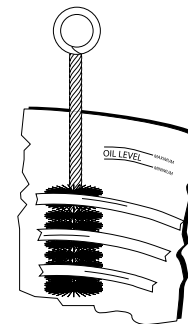

FIGURE 25
11. **Scrub Heater Coils** with white teflon brush. Clean heaters, heater holders, and all of cookpot (Figure 25). Do not use steel wool.